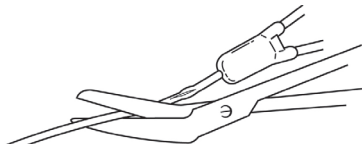

Fig. 2
2. Cut off the damaged portion of the catheter. (Fig. 2)